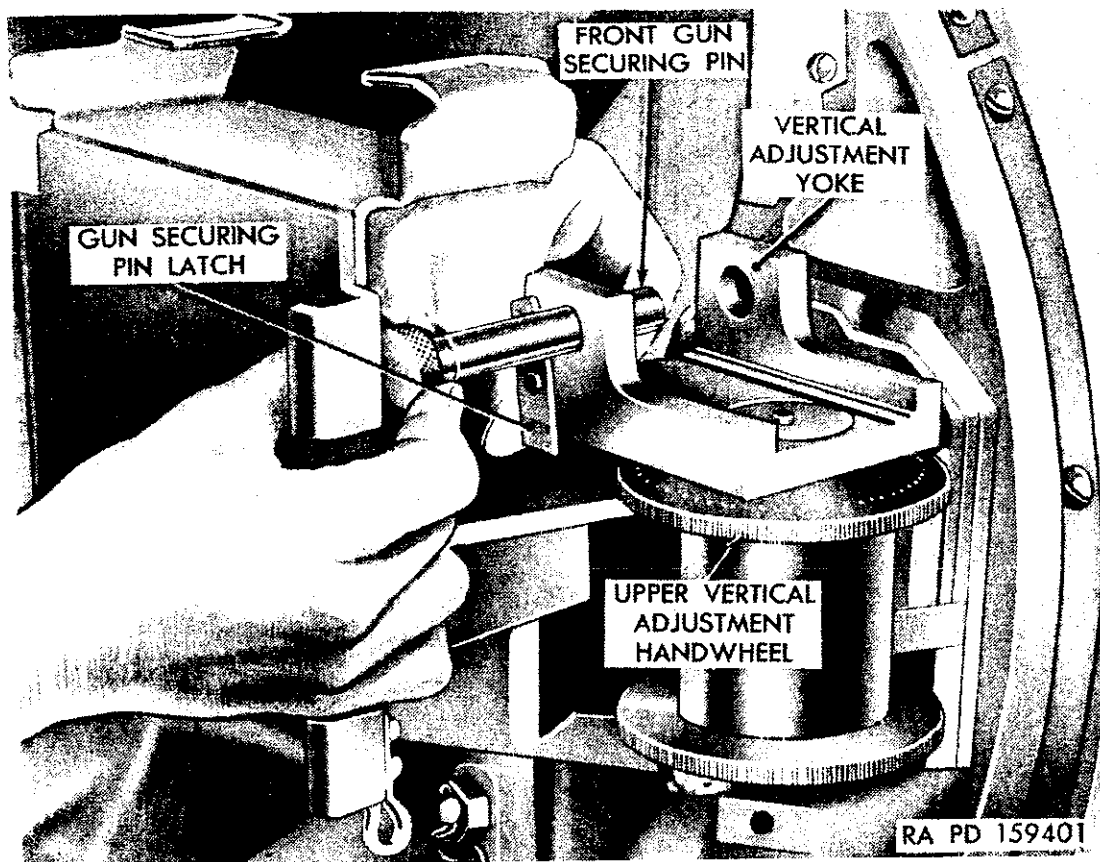

Figure 89. Setting front gun securing pin on mount M15.
- (1) Disengage the gun securing pin latch from the front gun securing pin in the vertical adjustment yoke (fig. 89).
- (2) Remove the front gun securing pin.
- (3) Lift the front end of the gun by the barrel support (do not lift by barrel) until the receiver just clears the yoke, and slide gun to rear until the rear securing pin clears the horizontal adjustment block. Now lift the gun clear of the mount.